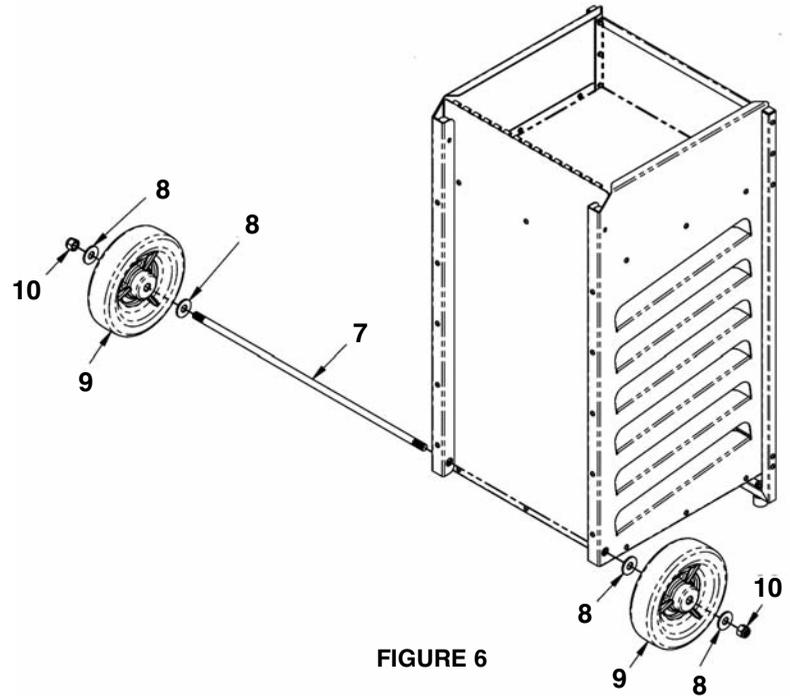

FIGURE 6
6. Slide the rear axle (#7) through the sleeves in the lower handle bar support tubes as shown in figure 6. Install one 1/2" washer (#8) onto each end of the axle followed by a rubber wheel (#9), a 1/2" flat washer (#8) and a 1/2"-20 nylock nut (#10). Do not over tighten. Make sure the wheels spin freely.